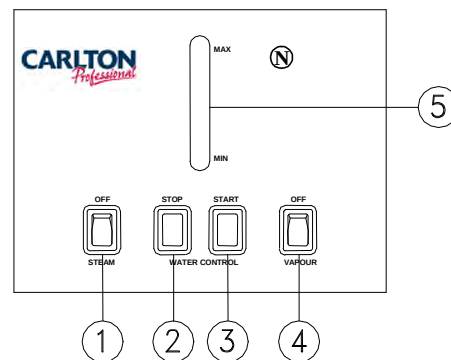

Figure 3 : control panel
With reference to Figure 3 :
After connecting the Vapouriser to the mains socket, press the ON switch (Figure 3 item 1), remove the filler cap by turning it 90° anticlockwise (see Figure 7 A and the indications on the cap). Put a cotton wool ball with 2 or 3 drops of essence or oil into the basket (Figure 7 B)
Once the water boiling temperature has been reached (only a few minutes after heating starts), steam is emitted automatically as shown in Figure 9 A. If ionization of the steam is required, press the ozone button (Figure 3 item 4); the ionizing lamp will light up and the steam will immediately take on a more visually intense white colour (see Figure 9 B). Start the treatment.
Should this be necessary, turn the Vapouriser off first using the ON/OFF button (Figure 3 item 1) and wait a few minutes before opening.